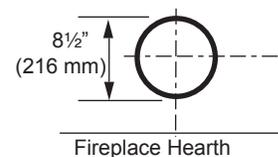

Figure 30 - Locate vent opening on wall
2. The center of the hole should line up with the center line of the horizontal rigid vent pipe end. Allow ¼" minimum rise per foot. Figure 30